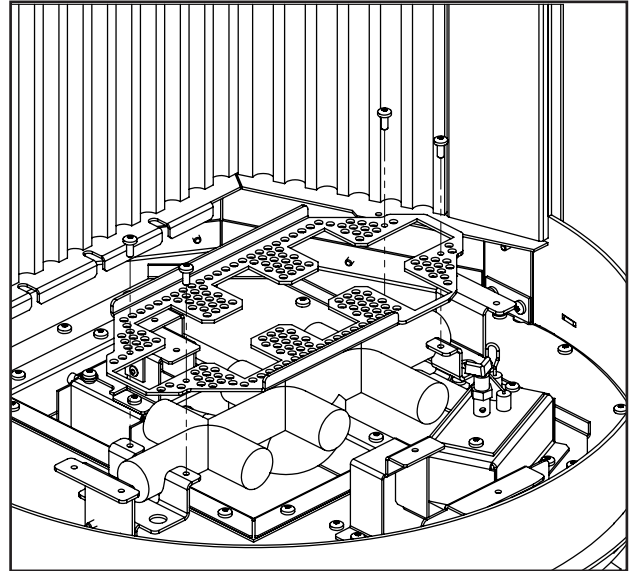

Figure 44: Burner Removal
Remove the four (4) screws securing the perforated burner tray, using a T20 screwdriver, and remove it (see Figure 44). The tube burner is now free to be removed by lifting up and out.